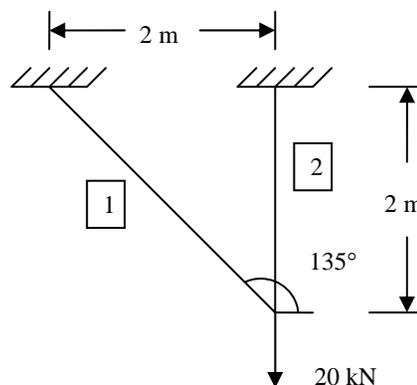

Fig. 5
13. (a) Determine the displacement and internal forces for the truss shown in fig.5.